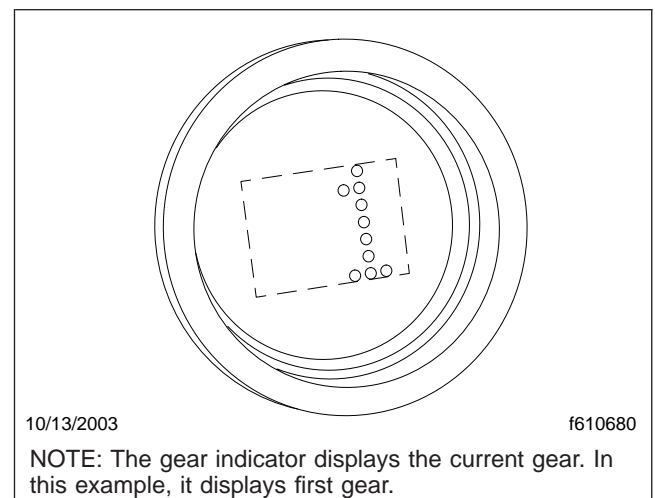

Fig. 8.10, Current Gear Display
In either mode, the gear indicator displays the current gear. See Fig. 8.10.
Drive (D) is directly below N on the four-position selector switch located at the end of the SmartShift control lever. To select D, press in the neutral lock button and move the selector switch to the position below N. When drive is selected, the number of the currently selected forward gear (1 through 10) displays on the gear indicator. See Fig. 8.10.